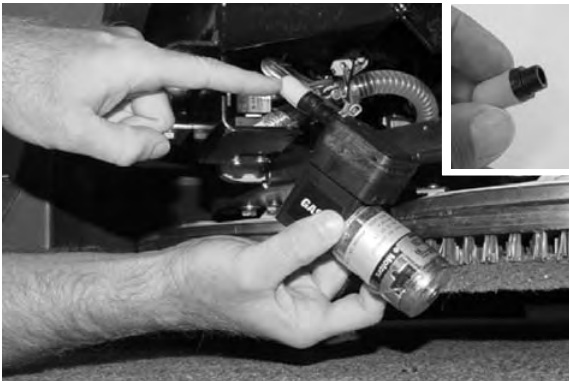

FIG. 36
2. FaST Model: Unscrew and remove the filter from the air pump, then clean out the filter using forced air. To access the air pump, remove the two mounting screws that attach the pump to the front of the machine (Figure 36).